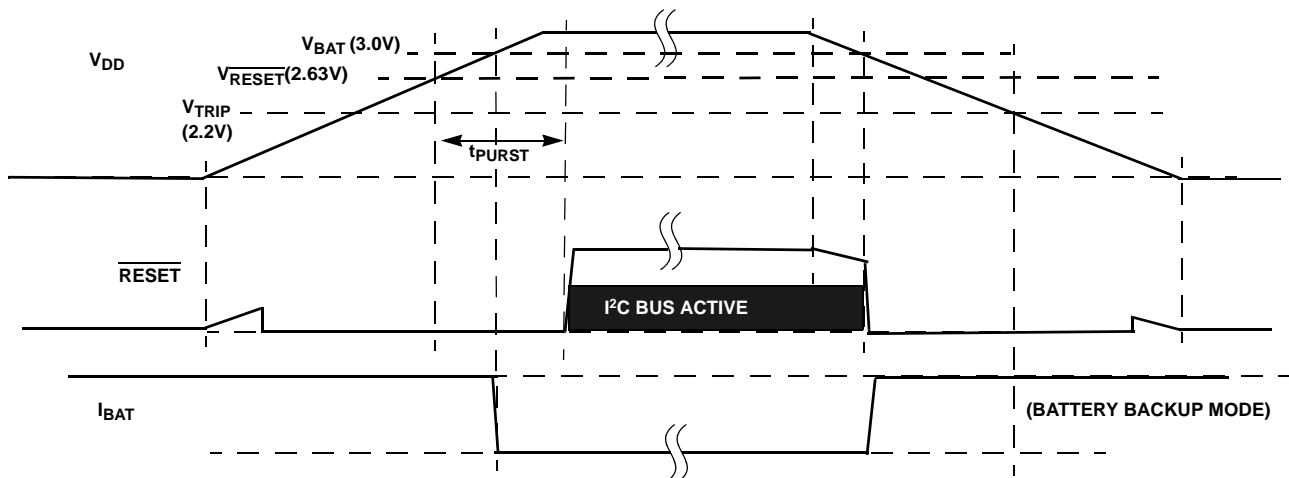

FIGURE 30. RESET OPERATION IN MODE D
- Mode D - In this mode, the selection bits indicate switchover to battery backup at V_{DD} < V_{BAT}, and no I²C communications in battery backup. This mode is unique in that there is I²C communication as long as VDD is higher than V_{RESET} or V_{BAT}, whichever is greater. This mode is the safest for guaranteeing I²C communications only when there is a Valid V_{DD} (see Figure 30).